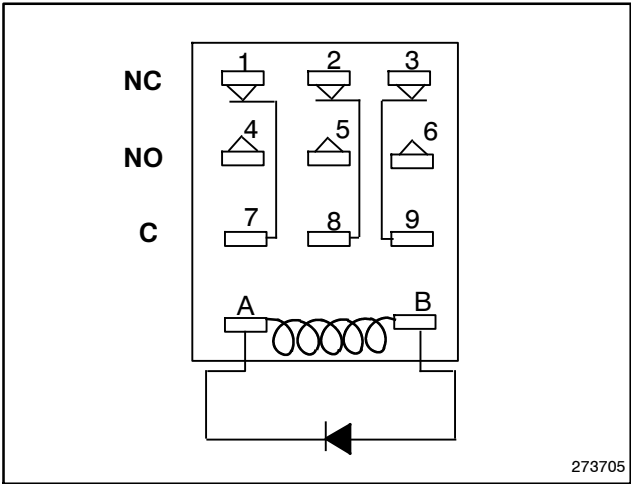

Figure 7 Relay Schematic
An adequate electrical supply is required to connect the customer-provided devices to the run relay for necessary operation. Check the electrical requirements of the customer-provided accessories prior to installation to determine the wire size and circuit protection required. Refer to the relay specifications in the introduction of this document. The customer-provided accessories should comply with applicable local and national electrical codes. Refer to Figure 7 for the relay internal normally-open (NO), normally-closed (NC), and common (C) connections.